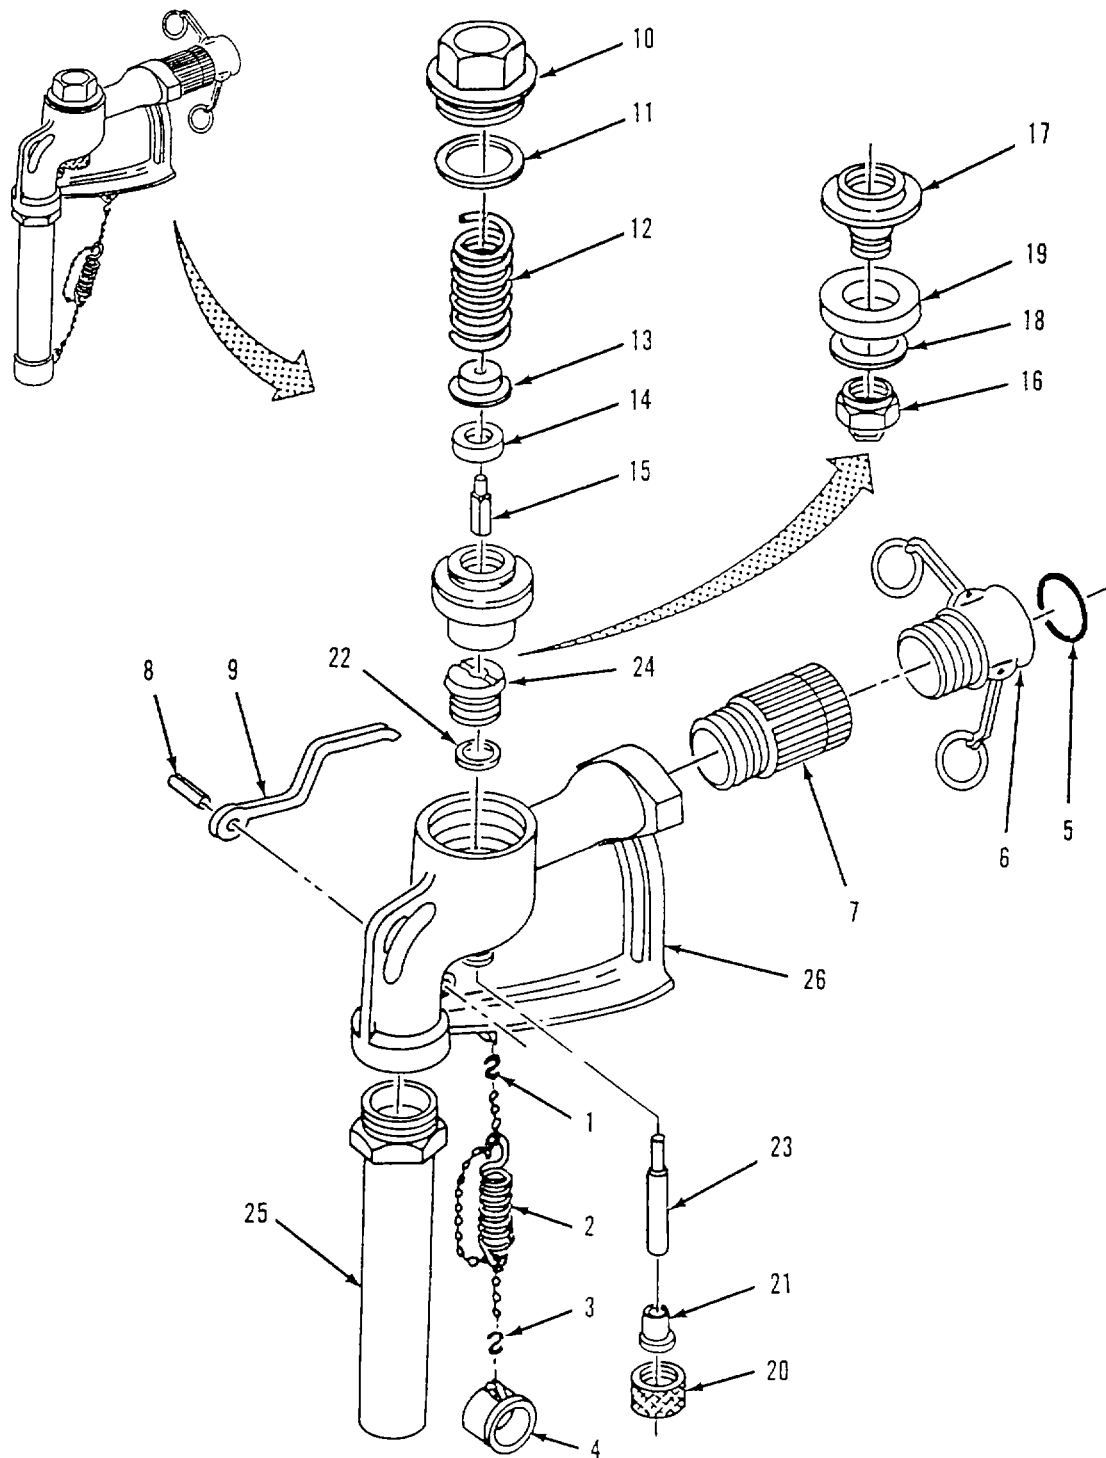

Figure 4-15. Distribution Nozzle (1 1/2-Inch) Assembly.
- (1) Inspect body (26) for cracks and stripped or damaged threads.
- (2) Inspect handle (9) for cracks.
- (3) Inspect tube and adapter (25) for bends, cracks, and deformation.
- (4) Inspect stem (23) for scoring. Check that stem is straight.
d. Repair. Replace damaged parts and all sealing components.**e. Assembly. Refer to figure 4-15.**
- (1) Screw tube and adapter (25) into body (26).
- (2) Install packing (22) in stuffing box (24), then screw stuffing box down into body (26).